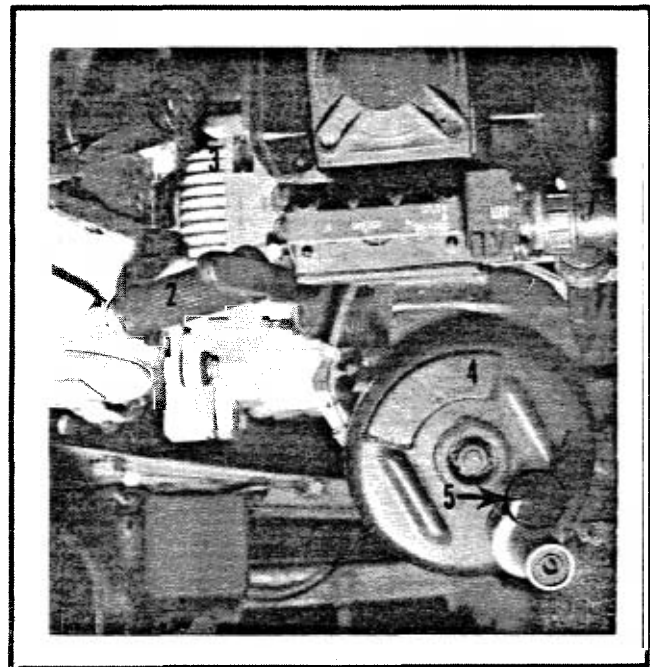

FIG. 3-32. MANUAL ELEVATION HANDCRANK
(2) Manual Elevation Handcrank (Fig. 3-32). The manual elevation handcrank is located below the gunner's electrical controls. By rotating it, the main gun elevates or depresses. At the base of the handle is located an auxiliary electrical trigger for the main gun.
(3) Gunner's Grip Handle (Panic Grip) (Fig. 3-32, 3-37). When firing the main gun or protecting himself from jolts when the vehicle moves cross-country, the gunner can hold a fixed handle mounted below the manual traverse handle to the left of the gunner's control gauge.